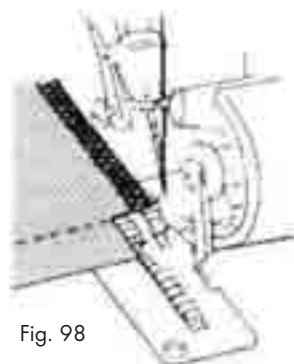

Fig. 98
3. Lift the needle and sewing foot ④.
4. Pull the fabric to the rear, such that the yarn being held by the finger of the stitch plate ⑬ is released. (For better recognition, on the drawing opposite the sewing foot ④ is not shown - Figure 98).